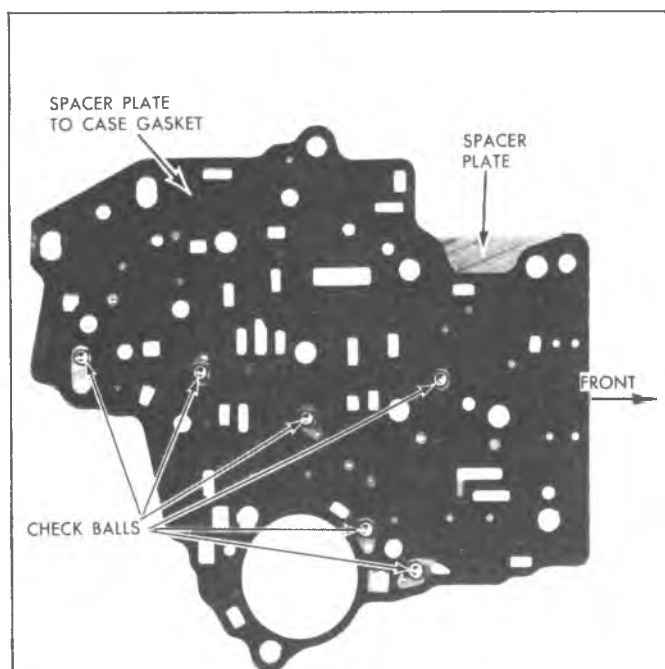

Fig. 142T-A--Location of Check Balls--In Vehicle Installation
2. Install six (6) check balls into ball seat pockets in transmission case. Figure 142T.
NOTE: If transmission is in the vehicle, install check balls into ball seat pockets on spacer plate (fig. 142T-A).